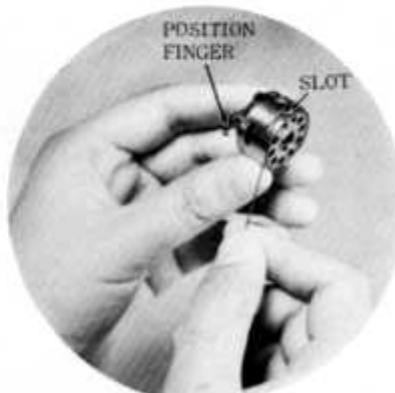
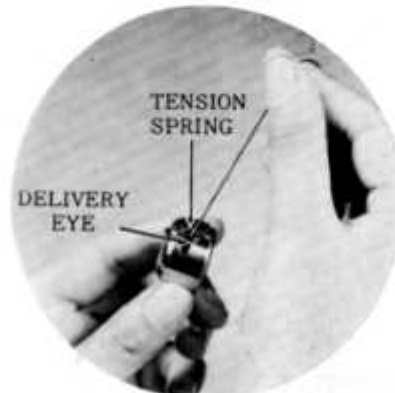

Fig. 6
Fig. 7
Step 2. Insert bobbin into bobbin case, pull the thread into the slot of the bobbin case as shown in Fig. 6, and draw it under the tension spring and into the delivery eye as shown in Fig. 7.